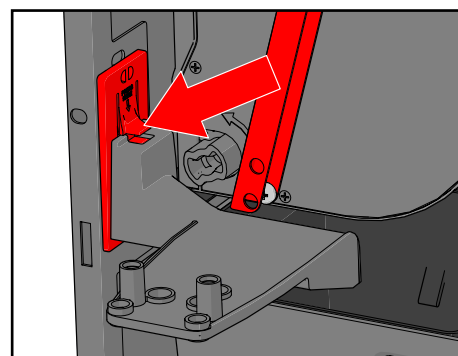
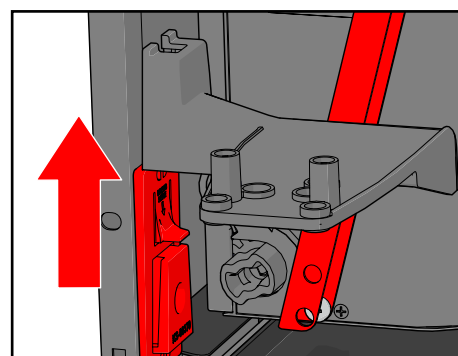

Figure 40.
Figure 41.
7. Remove the spout arm from the cabinet. Depress the latch and slide up (see Figure 40 and Figure 41).